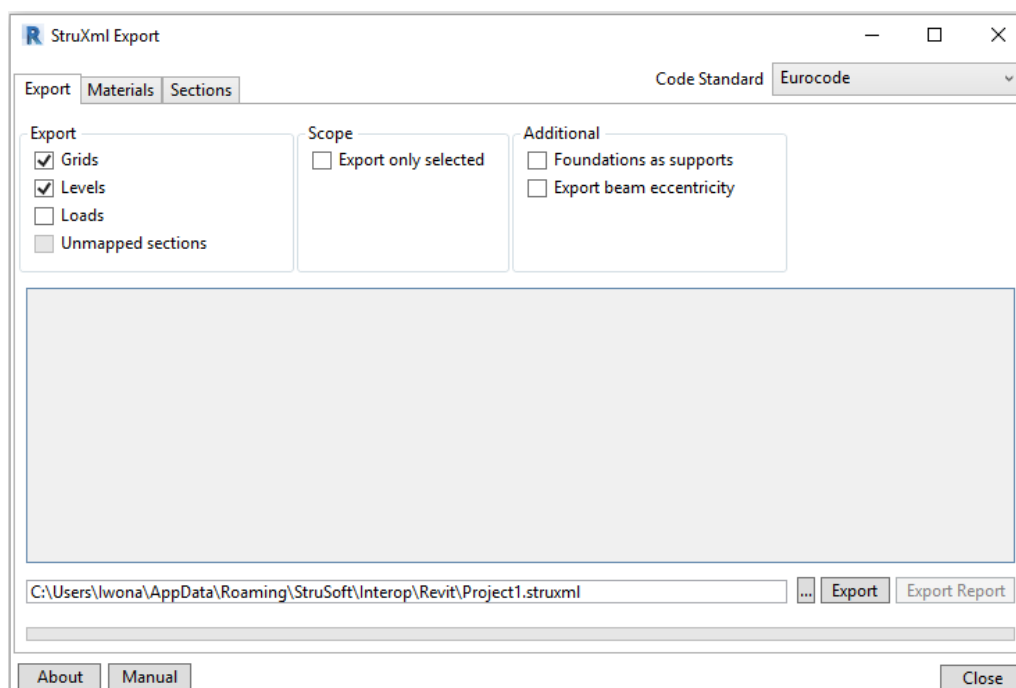

Figure III-34
7.1.1. After launching StruXML Export dialog there are no warnings about unmapped elements, as shown in Figure III-34.